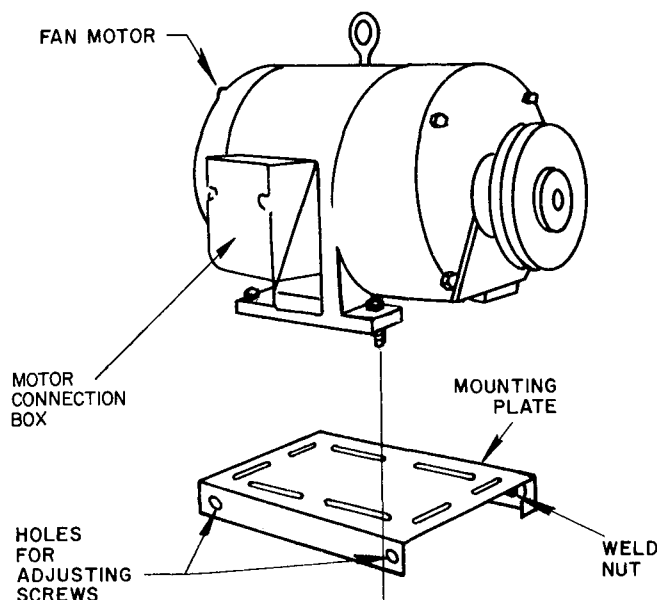
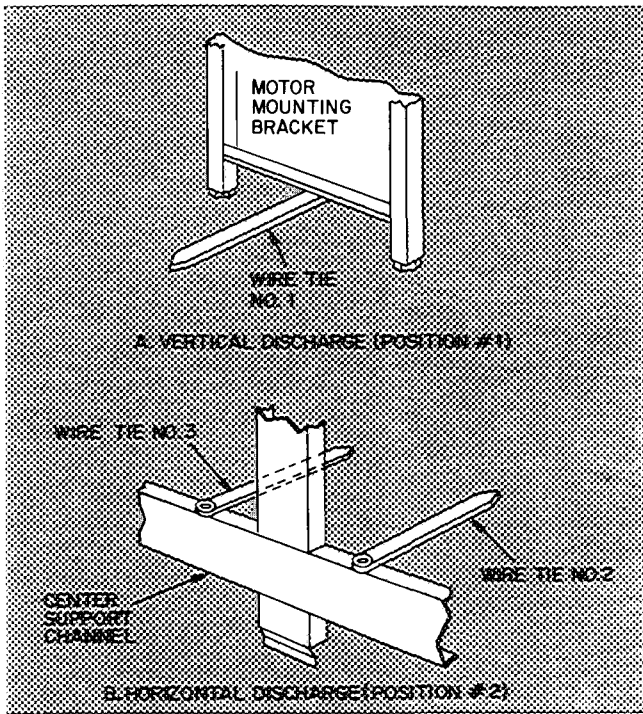

Fig. 5 — 028 and 034 Motor Mounting
Fig. 9 — Wire Tie Locations
2. Position motor on motor plate (Fig. 5) and fasten with fasteners provided.
VERTICAL DISCHARGE (Fig. 2, Position #1) — Run wiring thru wire tie #1 (Fig. 9) on motor mounting bracket to the fan motor and secure. Route wiring from wire tie around motor side of mounting bracket to fan motor connection box on top of motor (Fig. 5). Cut off and discard excess wire. Refer to base unit label diagram for wiring connection details.
HORIZONTAL DISCHARGE (Fig. 2, Position #2) — Run wiring thru wire ties #2 and 3 (Fig. 9) to the fan motor and secure. Run wiring to connection box at back of motor (Fig. 5). Cut off and discard excess wire. Refer to unit label diagram for wiring connection details.